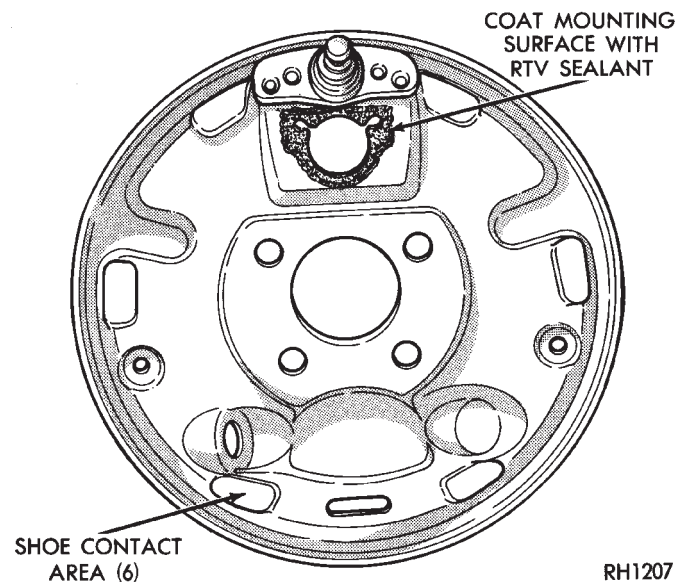

Fig. 4 Apply Sealant on Support Plate
(1) Apply Mopar® Gasket In-A-Tube or equivalent sealant around wheel cylinder mounting surface (Fig. 4).
(2) Install wheel cylinder onto brake support, and tighten the wheel cylinder to brake support plate attaching bolts to 8 N•m (75 in. lbs.).
(3) Attach hydraulic brake tube to wheel cylinder, and tighten tube to wheel cylinder fitting to 17 N•m (145 in. lbs.).
(4) Install brake shoes on support plate.
(5) Install rear brake drum onto rear hub. Install rear wheel and tire assembly, tighten wheel stud nuts to 129 N•m (95 ft. lbs.).
(6) Adjust the rear brakes, (See Adjusting Service Brakes) in Service Adjustments section in this group of